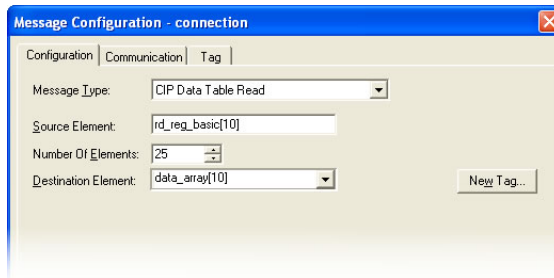

Figure 88: MSG Instruction Configuration
- b) Click the message configuration button (“...”) in the MSG instruction. The “Message Configuration” window will open. Refer to Figure 88.